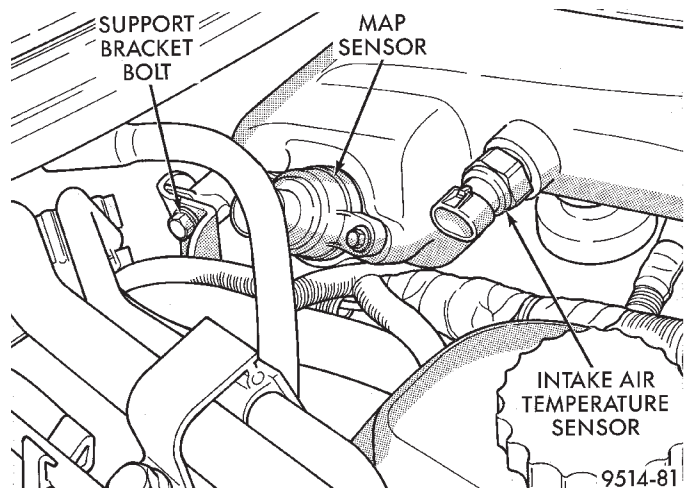

Fig. 33 Intake Manifold Sensors and Left Plenum Support Bolt
(1) Disconnect negative cable from auxillary jumper terminal.
(2) Unplug connectors from MAP and intake air temperature sensors (Fig. 33).
(3) Remove plenum support bracket bolt located rearward of MAP sensor (Fig. 33).